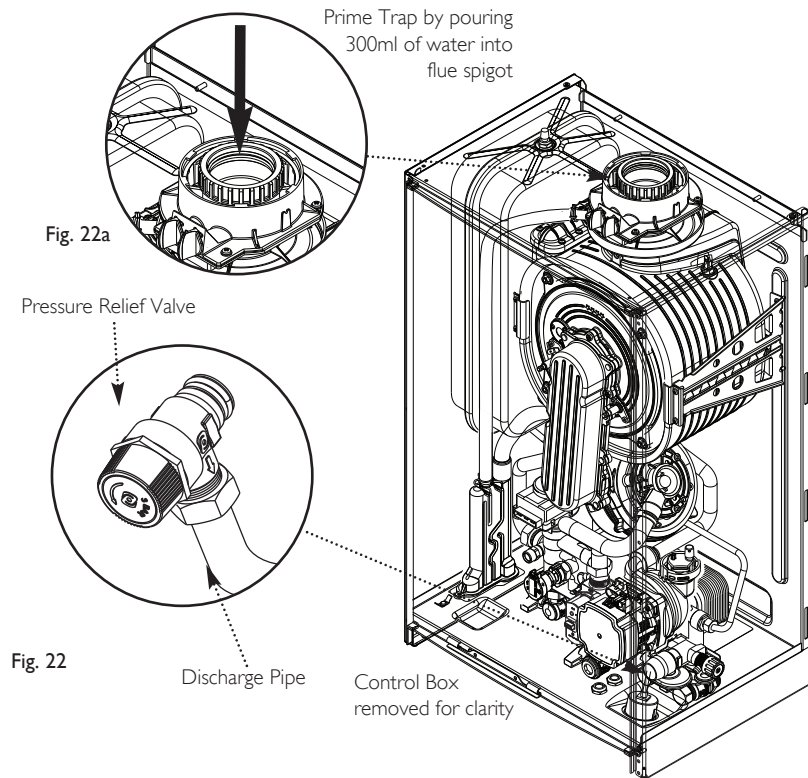

Fig. 22a
3. The boiler condensate trap should be primed by pouring approximately 300ml of water into the flue spigot (Fig. 22a). Do not allow any water to fall into the air inlet.